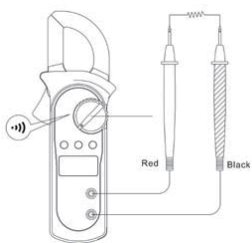

Figure 7
E. Testing for Continuity (See Figure 7)**Warning**